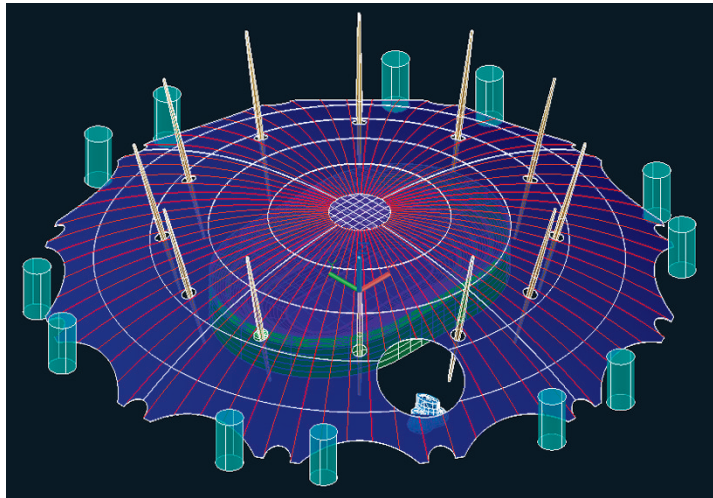

FIGURE 16.7 The X-ray visual style lets you see through solid objects.
- Choose X-ray from the in-canvas menu that appears. Figure 16.7 shows the result: a transparent, shaded view with edges.